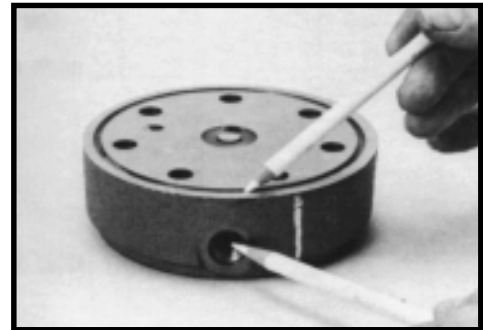

Figure 9
- 6. Thoroughly wash end cover (2) in proper solvent and blow dry. Be sure the end cover valve apertures, including the internal orifice plug, are free of contamination. Inspect end cover for cracks and the bolt head recesses for good bolt head sealing surfaces. Replace end cover as necessary. SEE FIGURE 9.